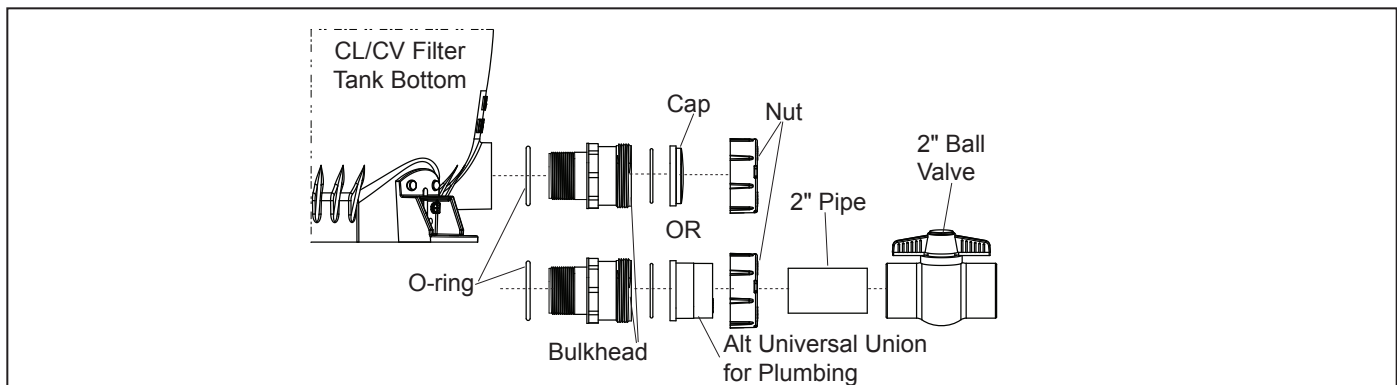

Figure 6. Jandy CL and CV Series Cartridge Filter Drain Configurations
9. Connect the pipes using the unions supplied with the filter. **Do not use Teflon tape or pipe dope on any unions.** Assemble the unions dry and hand tighten. See Figure 6.
10. If desired, the CV filter drain can be plumbed using a Jandy universal union. The plumbing must contain a ball valve as shown in Figure 6.